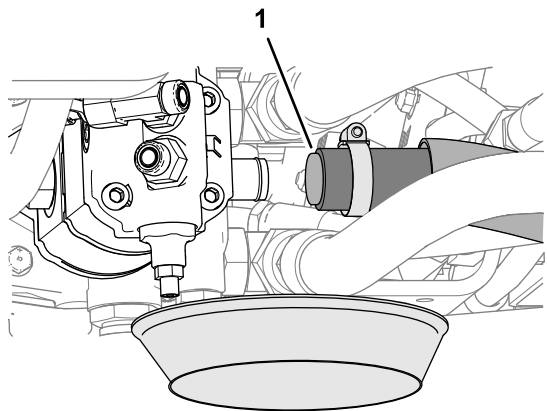

Figure 111
1. Align a drain pan under the suction hose and hydraulic pump (Figure 111).